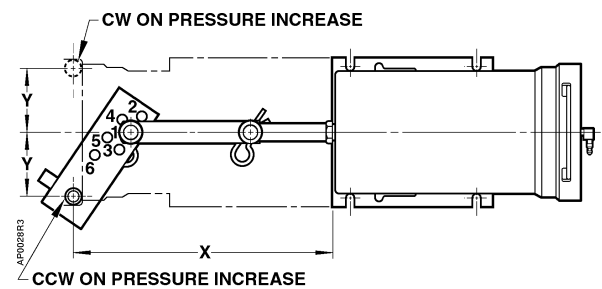

Figure 5. Fixed Mounted Actuator Assembly.
2. Place front of actuator on **X** dimension line so that the actuator shaft faces damper shaft. Place center line of actuator over **Y** dimension line (see Figure 5).